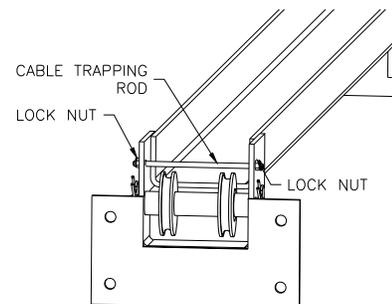

Fig. 5-Cable Trapping
- 8) **Complete steps 5 thru 7 for the five (5) anchors (one at a time) around each column.**
- 9) Shim both columns to plumb using the shims provided as shown in **Fig. 5**. DO NOT shim more than 1/2" at any given point. Use a level no less than 24" in length to plumb columns.
- 18) At the upper beam sheave locations disassemble and reassemble the cable trapping rod to install the cable onto the sheave as shown in **Fig 5**. At base of columns, bottom sheave will need to be removed then reassembled.